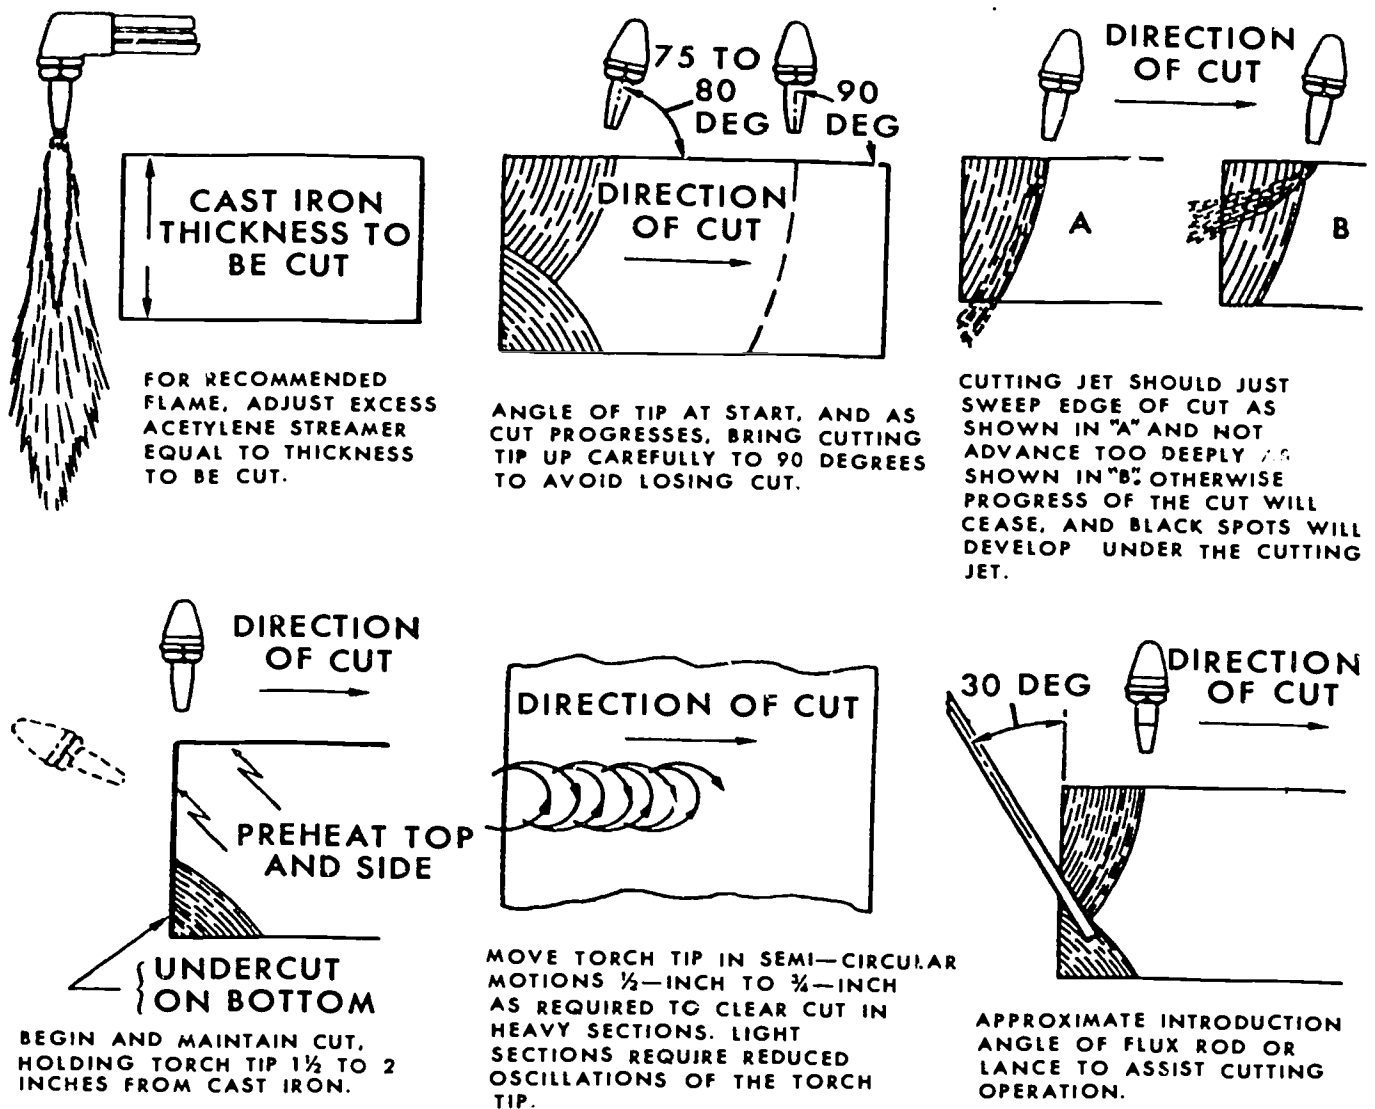

Figure 5-10. Cutting cast iron.
**Cast iron.** Cast iron melts at a lower temperature than its oxide; therefore, in the cutting operation, the iron tends to melt rather than to oxidize. To prevent melting, use the oxygen jet to wash out and erode the molten metal. To make this action effective, the cast iron must be preheated to a high temperature and a great amount of heat must be liberated deep in the cut. You do this by adjusting the preheating flame to produce an excess of acetylene. The length of the acetylene stream and the procedure for advancing the cut are shown in figure 5-10. Using a mild iron flux to
maintain a high temperature in the deeper recesses of the cut is also shown in figure 5-10.